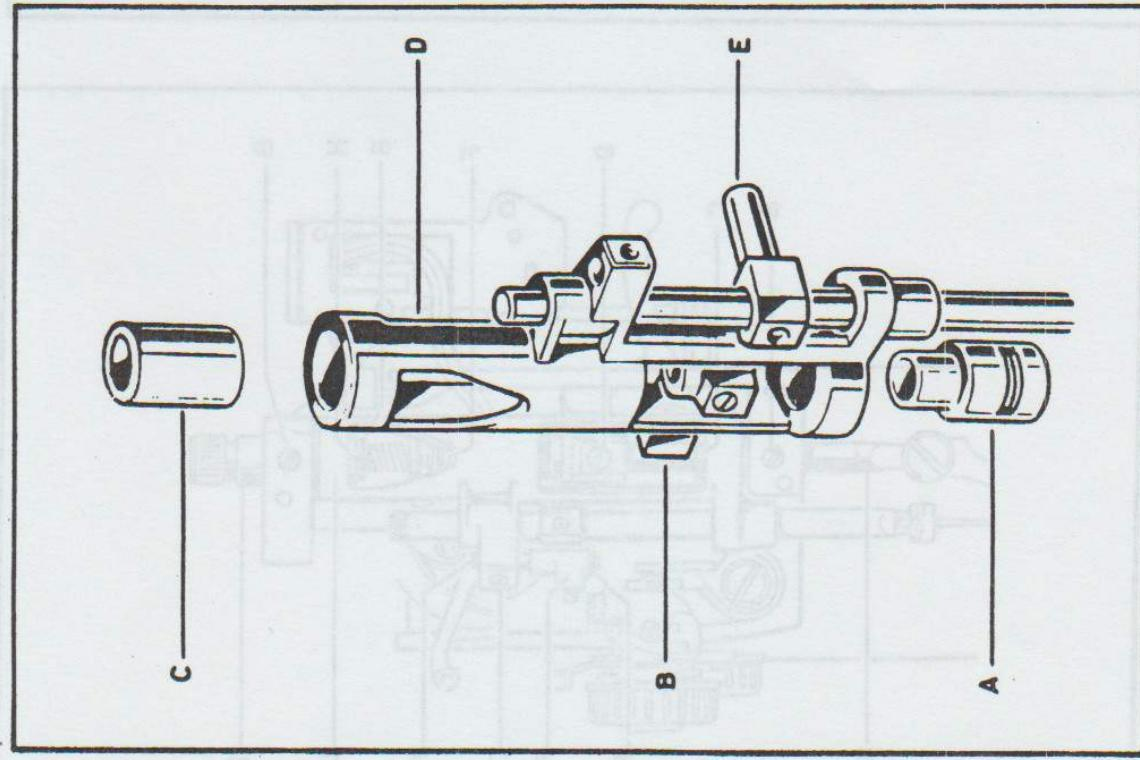

Fig. 38
- push bushing A (fig. 38) upward until the end play of the support is eliminated, without impairing its revolving speed;
- insert presser bar F from above and, passing it through the hole of guide B (fig. 38), push it downward until it stops against the needle bar;